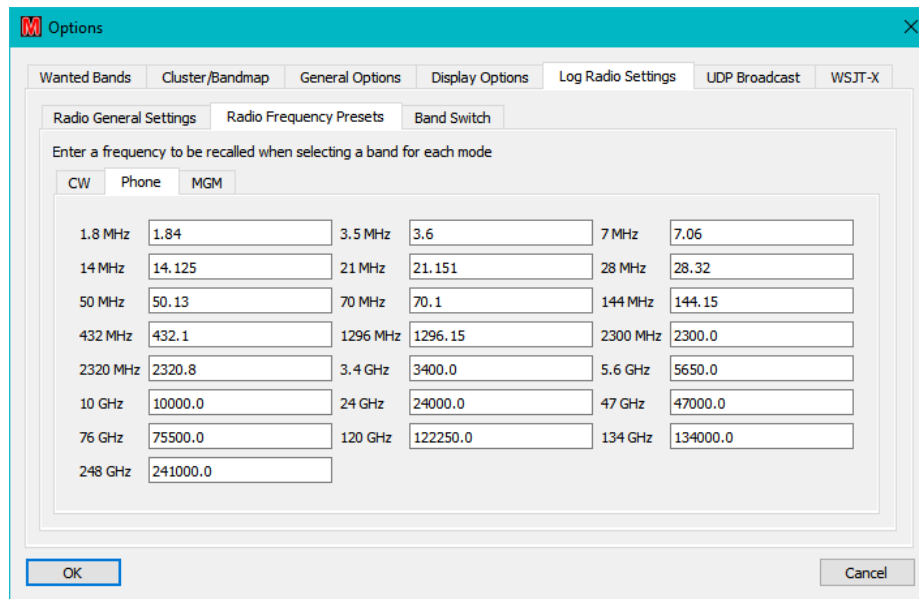
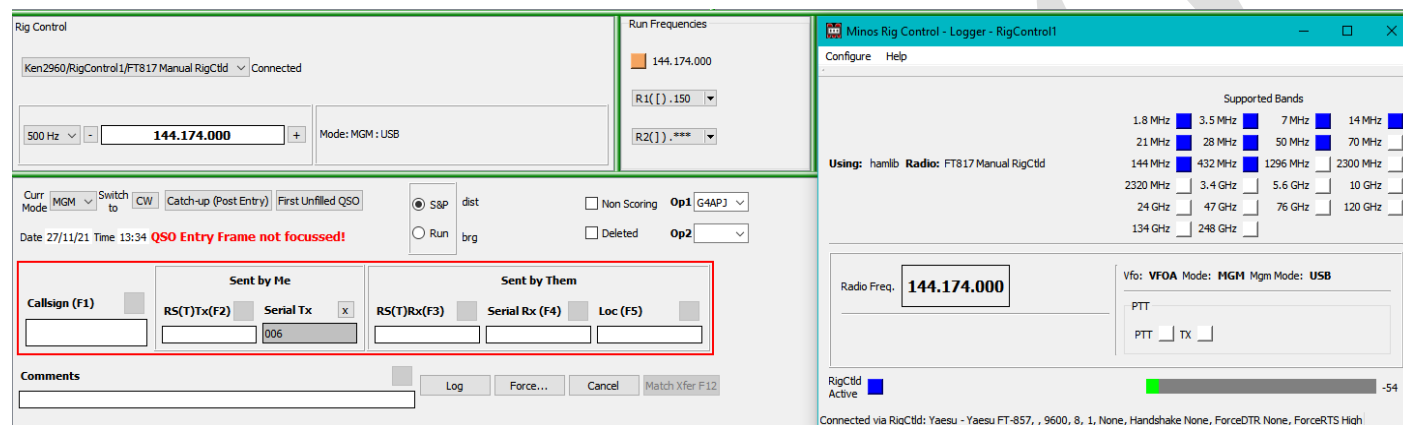
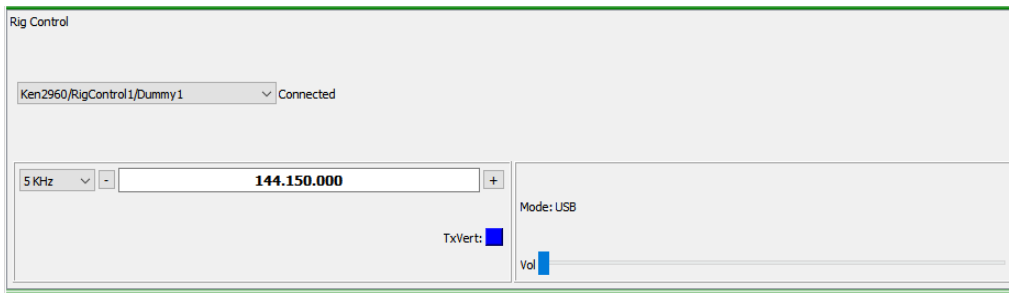

Figure 89 – Setup Band Frequency
Figure 91 – RigControl connected to Logger
Figure 94 – RigControl panel within Logger
The ‘**Radio Name**’ field is used within a contest to select (or display) which rig is currently being controlled (e.g. in Figure 91). Once defined, it may be changed using “**Edit Radio Name**” or removed (provided it is not currently active within the Logger) using the “**Remove Radio**” button.
- The ‘**Radio Frequency Presets**’ tab (Figure 89) displays the table of ‘base frequencies’ with a tab for each mode of CW/Phone/MGM. These define the frequency the rig goes to when a contest is opened or when a “**Quick Sel**” band change is made from the Rigcontrol panel of the Logger (Figure 91). The default
Once configured to operate in conjunction with the Logger a contest may utilise the rig selected within the application, and the RigControl panel becomes visible in Logger (see Figure 91). As can be seen, because the application is connected to the Logger, it shows ‘Logger’ in the title, together with the name assigned to the instance of the app being used they are using (RigControl, by default).
Within the RigControl panel (see Figure 94) on the top left is the name of the selected radio and its status which should normally be **‘Connected’** for correct operation⁸¹.
If the selected radio supports RIT (through CAT) it can be enabled through the RigControl panel (see Figure 94) and it will then become visible in the RigControl panel within Logger (see Figure 16). **Turning it on (Figure 91)** then allows incremental tuning using the mouse wheel in the same manner as for the main frequency. A specific RIT frequency can also be entered, although that is unlikely to be very useful. There are a number of shortcut keystrokes available - listed in Figure 181.